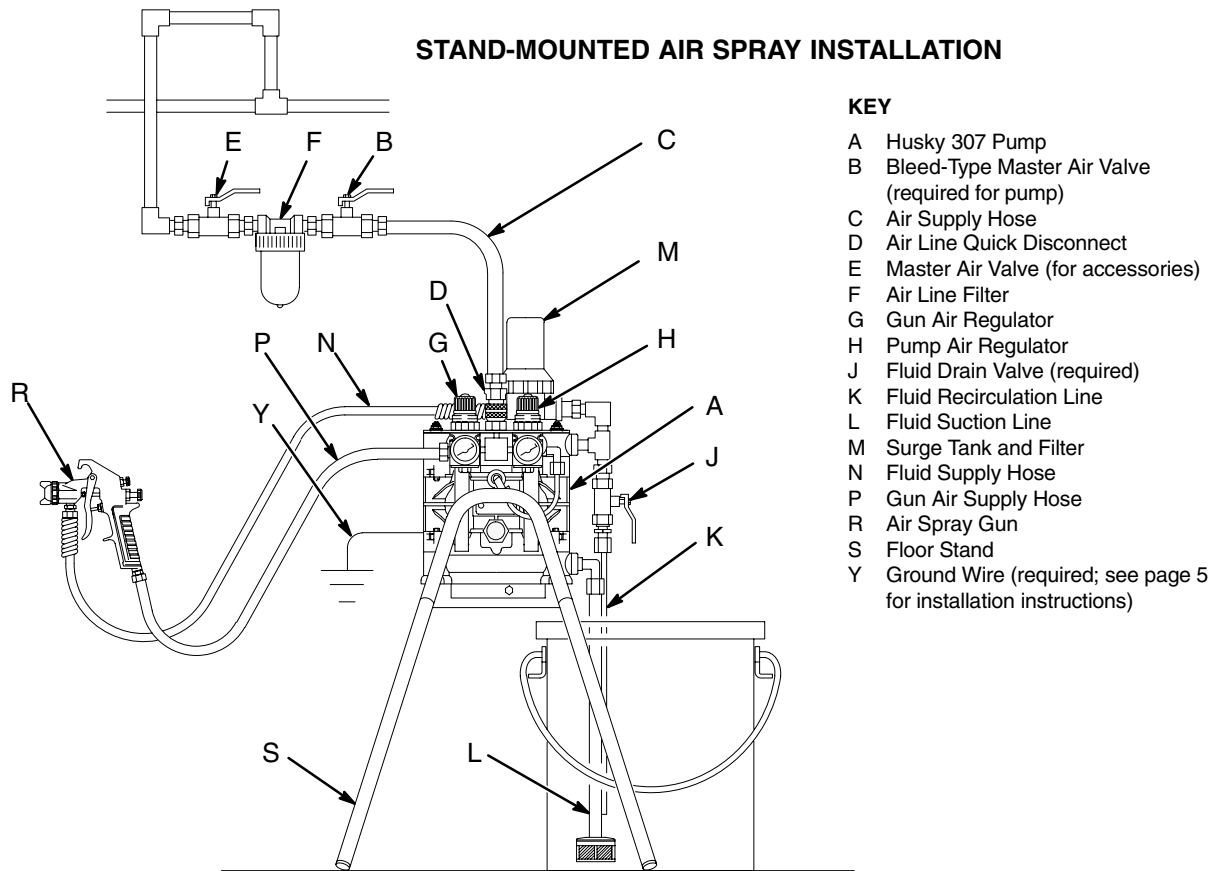
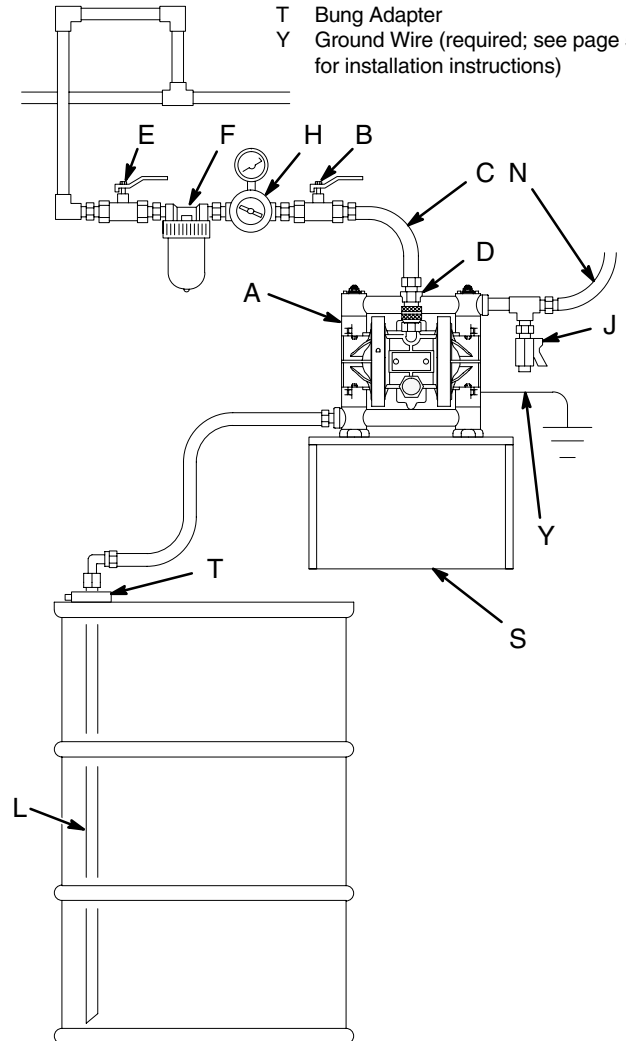

Fig. 4
Fig. 7
- The Typical Installations in Fig. 4 to Fig. 7 are only guides for selecting and installing system components. Contact your Graco distributor for assistance in planning a system to suit your needs.
- The Husky 307 Pump can be used in a variety of installations, some of which are shown in Fig. 4 to Fig. 7. Kits are available to adapt your pump to your system. Refer to the Product Data Sheet for the pump, Form No. 305528 (acetal pumps) or 305543 (polypropylene pumps).
When pumping conductive flammable fluids, **always** ground the entire fluid system by making sure the fluid system has an electrical path to a true earth ground (see Fig. 4 through Fig. 7). **Never** use a polypropylene pump with non-conductive flammable fluids as specified by your local fire protection code.
**NOTE:** When pumping conductive flammable fluids with a polypropylene pump, **always** ground the fluid system. See the **WARNING** at left. Fig. 4 through Fig. 7 show recommended methods of grounding flammable fluid containers during filling.
A bleed-type master air valve (B) is required in your system to relieve air trapped between this valve and the pump. See Fig. 4 to Fig. 7. Trapped air can cause the pump to cycle unexpectedly, which could result in serious injury, including splashing in the eyes or on the skin, injury from moving parts, or contamination from hazardous fluids.
1. Install the air line accessories as shown in Fig. 4 to Fig. 7. Mount these accessories on the wall or on a bracket. Be sure the air line supplying the accessories is grounded.
A fluid drain valve (J) is required in your system to relieve pressure in the hose if it is plugged. See Fig. 4 to Fig. 7. The drain valve reduces the risk of serious injury, including splashing in the eyes or on the skin, or contamination from hazardous fluids when relieving pressure. Install the valve close to the pump fluid outlet.
See Fig. 4 for accessories